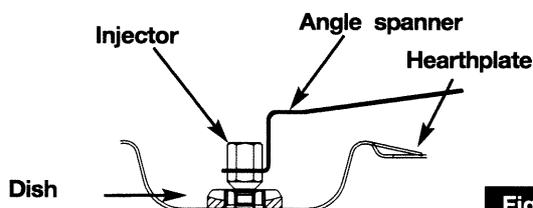

Fig. 2
- Using the spanner supplied, unscrew the injectors at the bottom of each dish and remove them (fig. 2)..